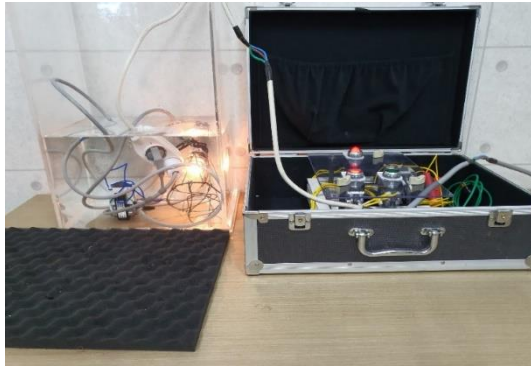

Figure 1
- According to the Electrical Appliances and Consumer Products Safety Control Act (K 60990 [IEC 99-08]), when the AC 220V terminal is submerged in the water tank, the amount of current leaking into the water as shown in [Figure 1]is connected in parallel with the type 3 grounding to make sure it is less than 5mA.